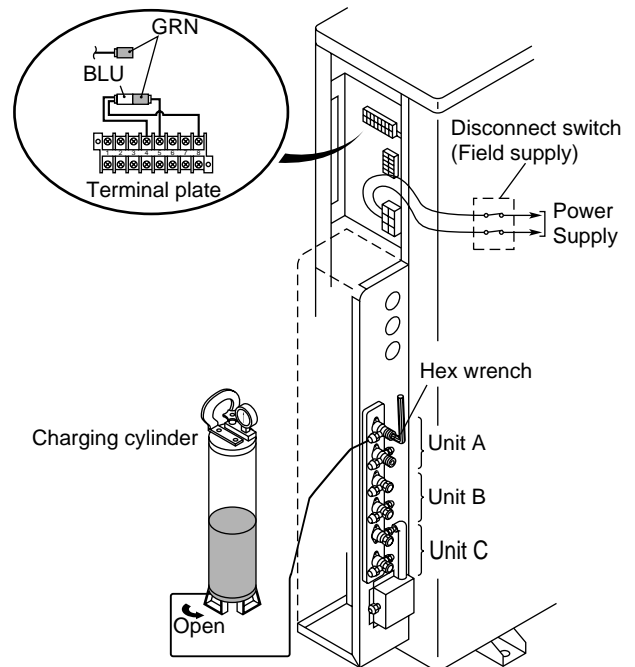

Fig.9-3
- 9-5-2. Use a hose to connect the narrow tube service valve to the liquid port of the charging cylinder. (Fig.9-3)
9-5-4. With a hex wrench, open the service valve little by little to let liquid refrigerant enter the circuit. (Fig.9-3)